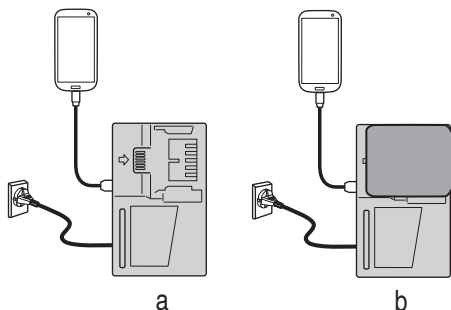

Fig. 17
- Charging a USB device from a electrical outlet (**Fig. 17-a**).
- Charging a USB device and battery from a electrical outlet. (**Fig. 17-b**)